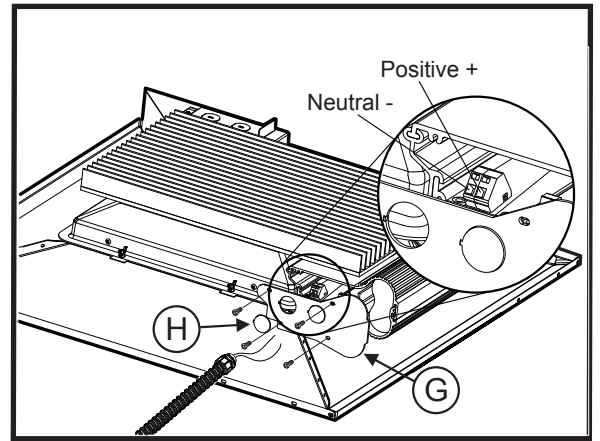

Figure 6
- To connect dimmer wires, remove side panel "G" by removing the (4) screws that hold it in place.
- Remove side panel knock-out "H" by inserting screw driver blade into knock-out notch and prying apart. Connect flexible conduit connector to the side panel as shown in Fig 6.
- Insert positive and neutral wires into the PCB connector (shown in detail view of Fig 6) in the correct polarity location as shown in Figure 6. **The polarity of the connection is important to proper dimmer function.** Using a small flat blade screwdriver, insert the blade into the top slots on the PCB connector and twist to lock the wires into place.
- When wires are locked, replace side panel and secure using the (4) screws provided.